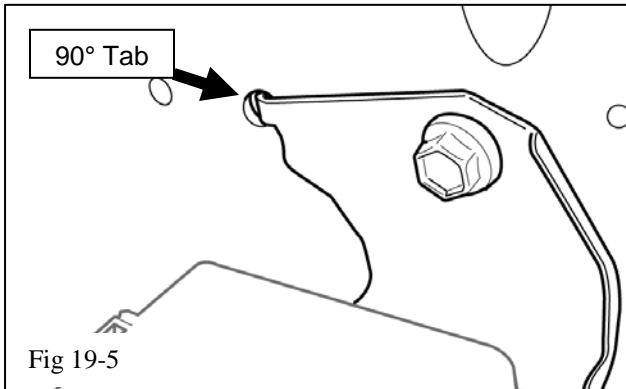

Fig 19-5
- (f) There will either be an open M8 threaded hole in the driver's side inner fender panel, or it may have a tab on a bracket in the threaded hole as shown (Fig 19-5).